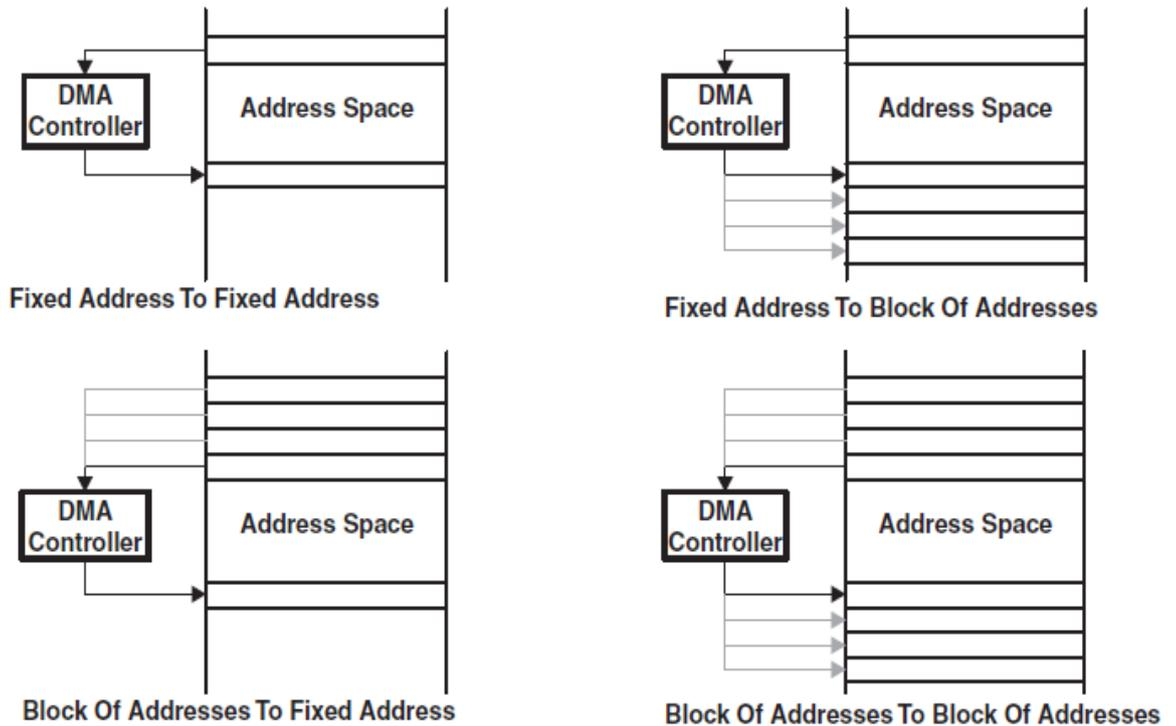

Figure 1-2. DMA Addressing Modes
- channel 1 transfers between two blocks of addresses. The addressing modes are shown in Figure 1-2.